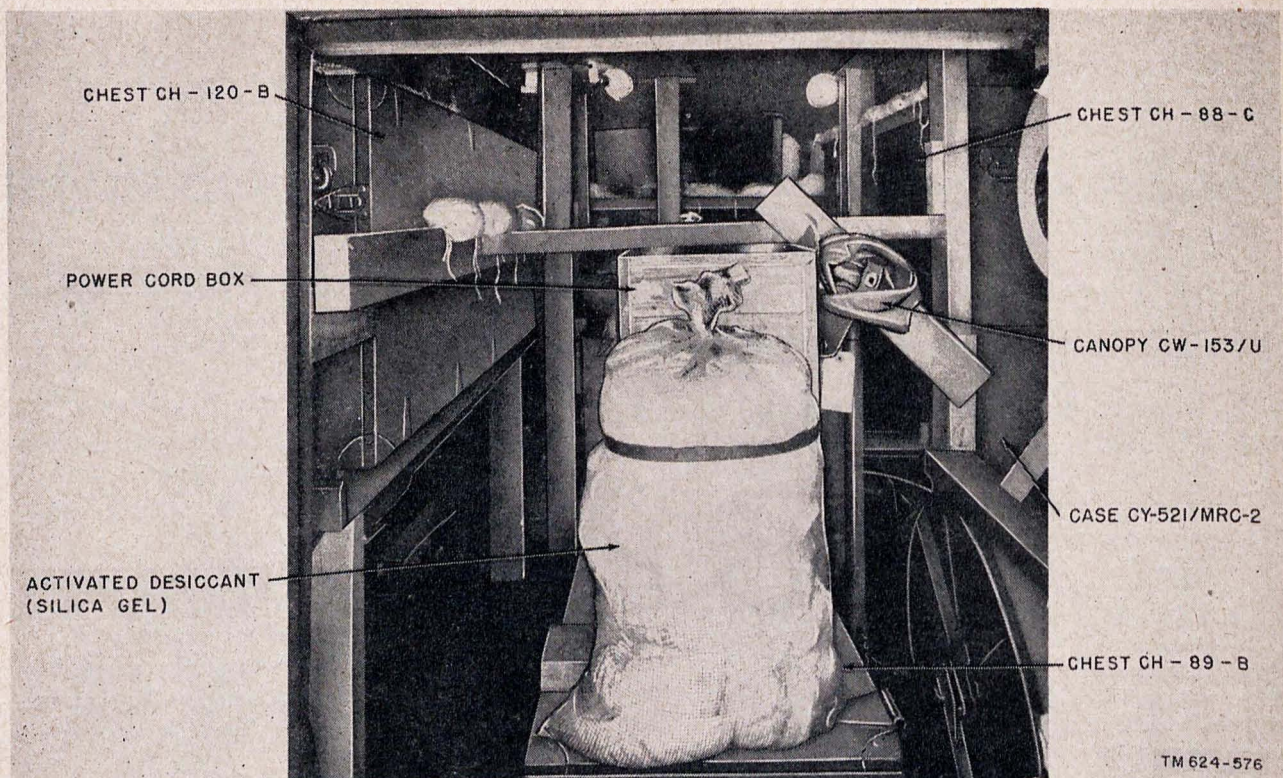

Figure 88. Interior of transmitting shelter of Radio Set AN/MRC-2C, packed for shipment.
- (6) Secure the chairs to the shelter operating tables or chests to prevent them from sliding around.
- (7) Remove Canopy CW-153/U; fold and stow it on the shelter floor.
- (8) Check all light bulbs for tightness.
- (9) Place protective wrappings around the heater, fire extinguisher, and other components for which there is no space in the chests.
- (10) Stow all loose items, such as headsets and technical manuals, in the chest compartments provided. Cushion accessories and spare parts by wrapping in flexible corrugated paper. Secure cushioning with gummed paper tape.
- (11) Where caps over external connectors are provided, secure them in place. Close and secure all windows, hatches, blackout blinds, louver covers, and doors. Cover all openings remaining with three thicknesses of waterproof barrier material. Secure this with the 3-inch pressure-sensitive tape.
- (12) Secure the shelter holddown tie rods with strips of the pressure-sensitive tape.
- (13) Place bags of silica gel desiccant inside the chests. Protect the chest openings with pressure-sensitive tape.
- (14) Figures 88 through 90 show the shelter interiors packed for shipment and illustrate a method of placing wooden props and bags of silica gel about the shelter.